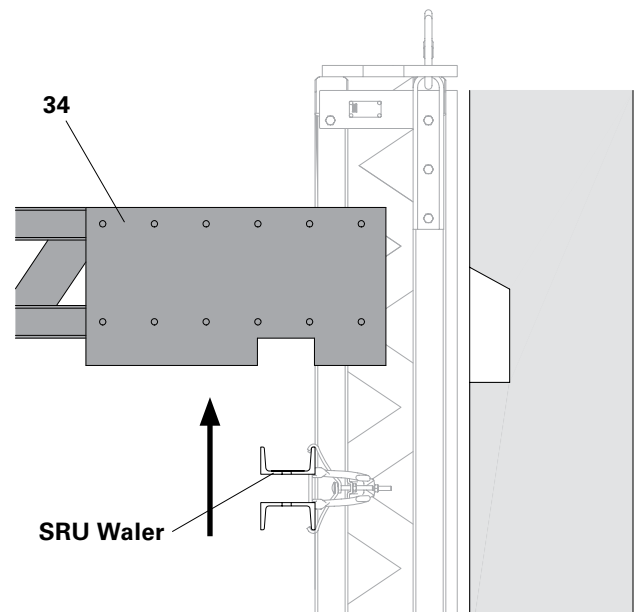

Fig. C1.08
1. Lift the Distance Device (34) out of the SRU Waler and remove. (Fig. C1.08)